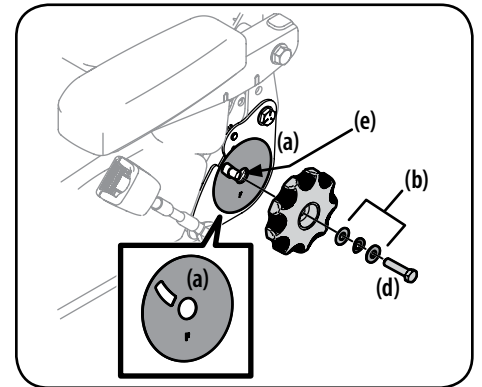

Figure 2-11
7. Remove the seat tilt knob assembly from the bag and install as shown in Figure 2-11.
NOTE: Be sure to orient the recliner bearing plate (a) and install the washers (b) as shown in Figure 2-11. The thicker washer is on the outside.